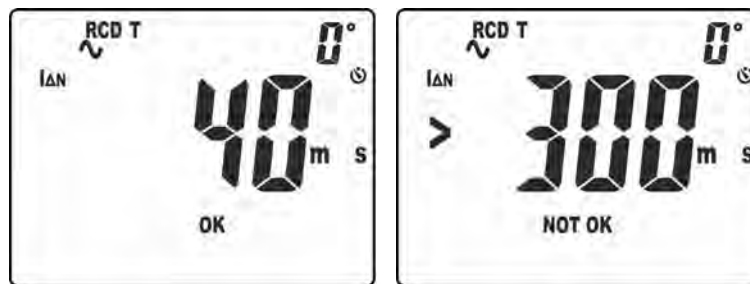

Fig. 35: Tripping time in manual mode at  $I_{\Delta n}$
- 10. The correct measurement result is shown on the display (see Fig. 35 – left side) with indication “OK”
- 11. The correct measurement result is shown on the display (see Fig. 35 – right side) with indication “NOT OK”. The buzzer gives a short continuous sound